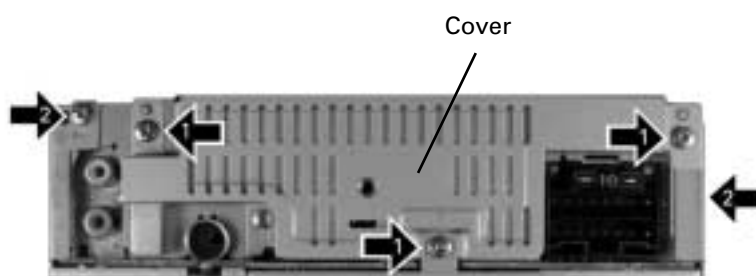

Fig.2
- ➡ 1 Remove the three screws and then remove the Cover. (Fig.2)
- ➡ 2 Remove the two screws. (Fig.2)